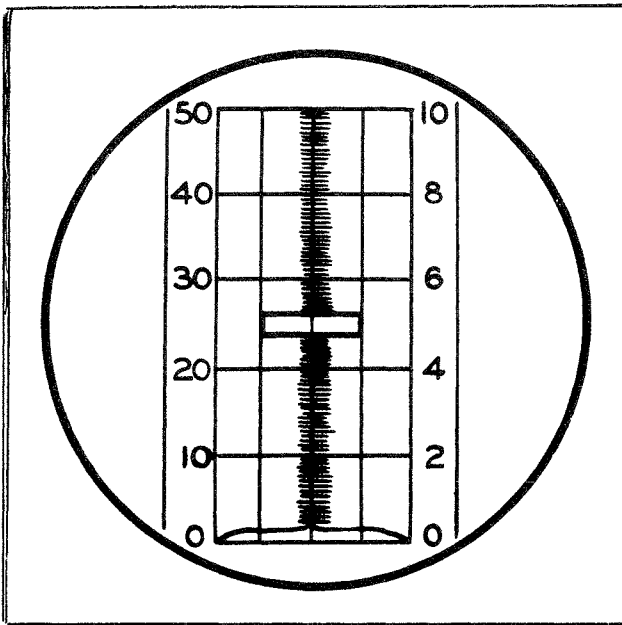

Figure 3-1. Indicator Screen, Response to Beacon Directly Ahead
(6) Adjust the receiver "GAIN" control to the proper level. Each operator will have his individual opinion as to this setting. However, the gain should be high enough to provide a clear indication of the incoming signal.
(7) When the airplane is within the range of the ground beacon, place the "TRANS.-KEY" switch in the "TRANS." position. A signal should appear on the screen of the indicator unit, showing the distance from the beacon and its direction from the heading of the plane. Range is read to the bottom of the received pulse. (See fig. 3-1.)